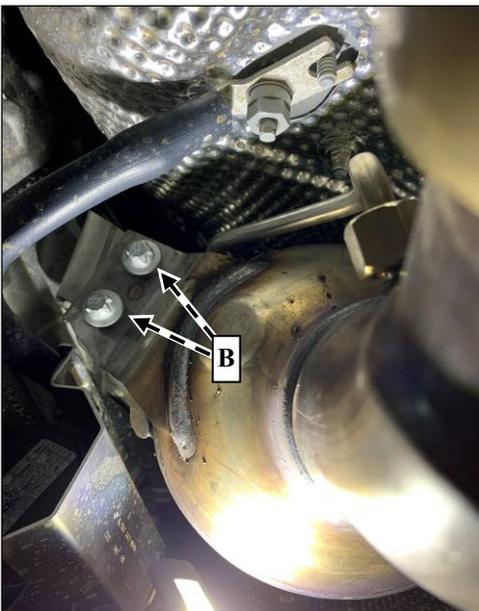

Figure 3
- 3.1. Remove bolts (B) from catalytic converter mounting support (Figure 3).